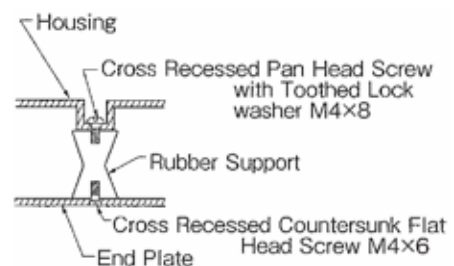

Fig. 11
- 3) Loosen the screws at both sides of the Rubber Support and remove the Rubber Support. Now the disassembly is completed. (Fig.11)